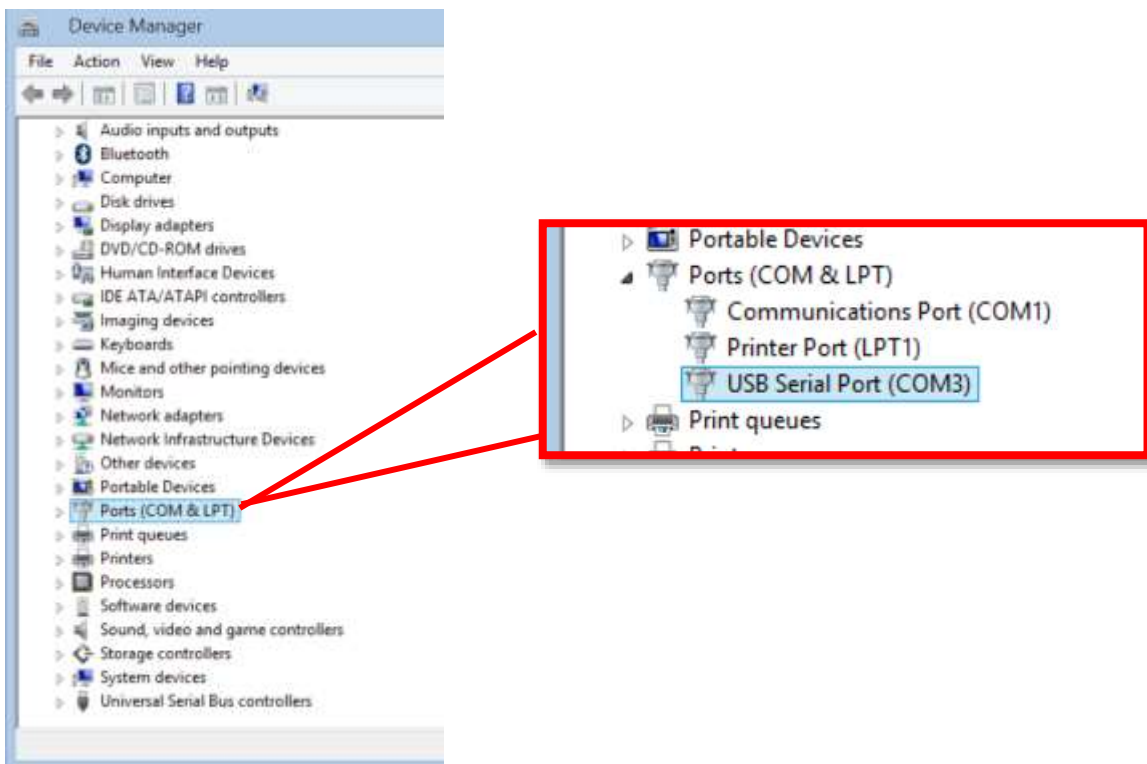

Fig. 2.1.3 Device Manager
- Step 3.** Inside Device manager find **Ports (COM & LPT)**. Click the arrow to the left of **Ports (COM & LPT)**, where a collapsible list of items should appear. Some computers show a plus “+” sign. (See Fig 2.1.3 below.)
- Step 4.** Observe which COM port *Windows* has assigned to the USB adaptor you plugged in. In this example, *Windows* has assigned it to COM3. Use this COM port number to correspond with the Grace software. (See Fig 2.1.3).